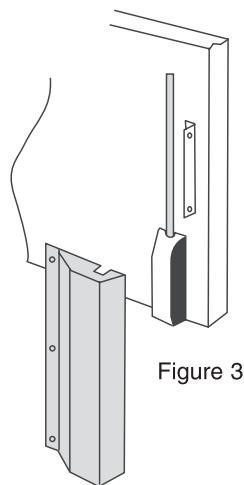

Figure 3
Step 4. (Figure 3) Mount cover to bracket with two #8-32 pan head machine screws and then using the cover as a template, drill and tap the remaining (3) holes #8-32 in the door. Finish mounting the cover with (3) #8-32 pan head machine screws.